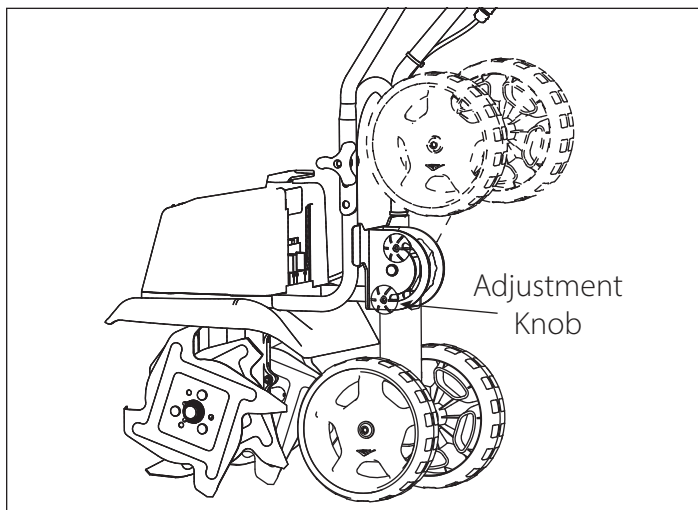

Figure 6
5. To adjust the wheel height, press and hold the adjustment knob until desired height is achieved, then release the knob. **SEE FIGURE 6**